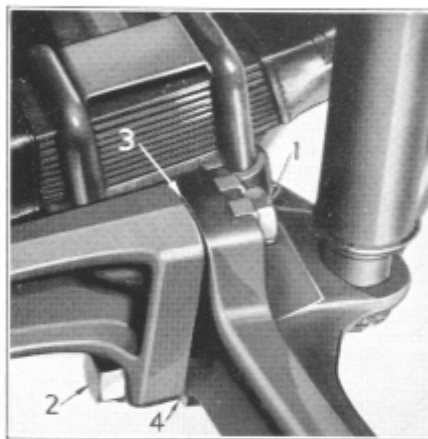

Figure 19
By bending back locks and removing cap screws (1 and 2), Figure 19, and installing a shim between the torque arm and upper torque arm boss on each side of the axle (3), caster is decreased. By installing a shim between the torque arm and lower